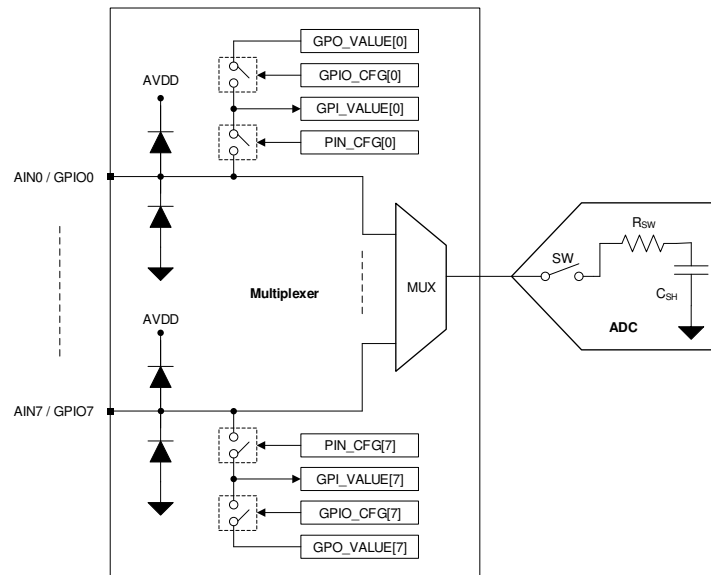

图 7-1. Analog Inputs, GPIOs, and ADC Connections
The eight channels of the multiplexer can be independently configured as ADC inputs or general-purpose inputs/outputs (GPIOs). As shown in Figure 7-1, each input pin has ESD protection diodes to AVDD and GND. On power-up or after device reset, all eight channels of the multiplexer are configured as analog inputs.
Figure 7-1 shows an equivalent circuit for the pins configured as analog inputs. The ADC sampling switch is represented by an ideal switch (SW) in series with a resistor ( $R_{SW}$ , typically  $150\ \Omega$ ) and a sampling capacitor ( $C_{SH}$ , typically  $30\ \text{pF}$ ). During acquisition, the SW switch is closed to allow the signal on the selected analog input channel to charge the internal sampling capacitor. During conversion, the SW switch is opened to disconnect the analog input channel from the sampling capacitor.
To enable write access to the configuration registers for diagnostics, write 0x96 in the DIAGNOSTICS\_KEY register. To enable bit-walk test mode, configure BITWALK\_EN = 1b. In the bit-walk test mode (see 图 7-1), the sampling switch (SW) remains open and the test voltage is applied on the sampling capacitor (CSH) during the acquisition phase of the ADC. In diagnostic mode, the conversion process of the ADC remains the same as normal device operation. The ADC starts the conversion phase on the rising edge of  $\overline{CS}$  and outputs the code corresponding to the sampled test voltage. The output code of the ADC is expected to be proportional to the test voltage, as shown in 方程式 2, after adjusting for DC errors (such as INL, gain error, offset error, and thermal drift of offset and gain errors).